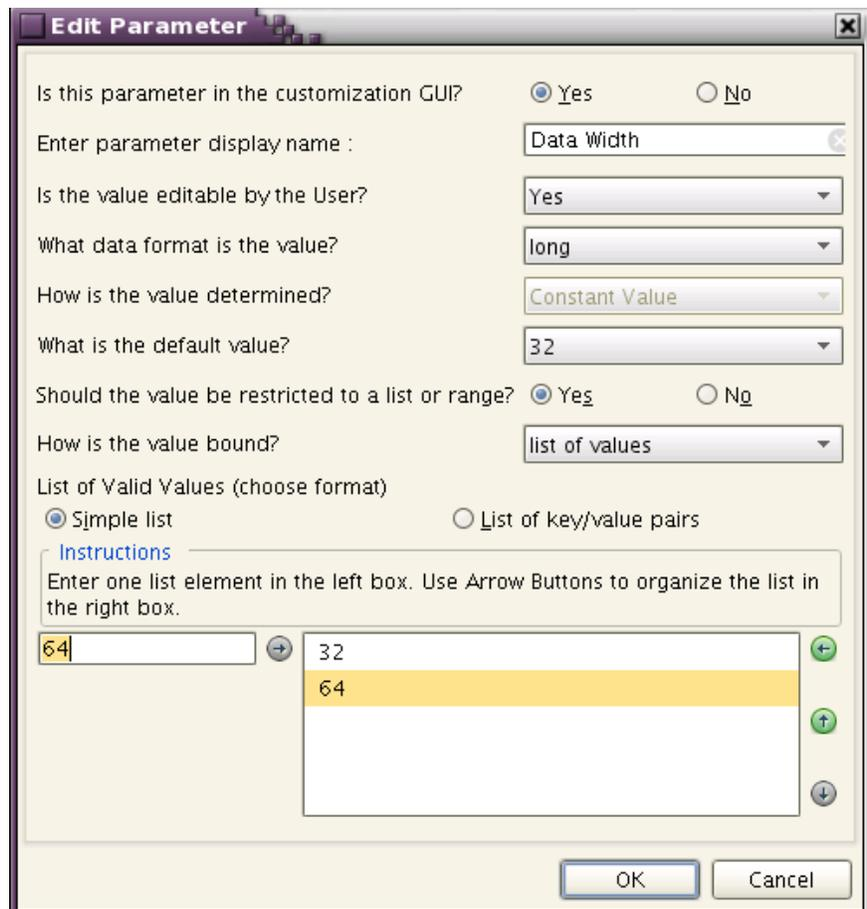

Figure 20: Edit Parameter Window for AXI4 Master
- Update the following fields in the Edit Parameter window (Figure 20) and click **OK**. These fields update the GUI. The AXI data width parameter will be limited to two choices.